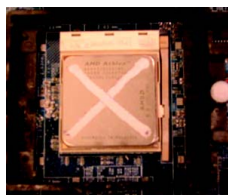

Figure 4. Application of Thermal Grease to the processor.
Step1-2. When the processor is installed in the socket, apply thermal grease to the processor(as shown in Figure 4) prior to installing the heatsink. AMD recommends using a high thermal conductivity grease (such as Shin-Etsu types G751 or G749, or an equivalent product) for the thermal interface material rather than a phase change material. Phase change materials develop strong adhesive forces between the heatsink and processor.